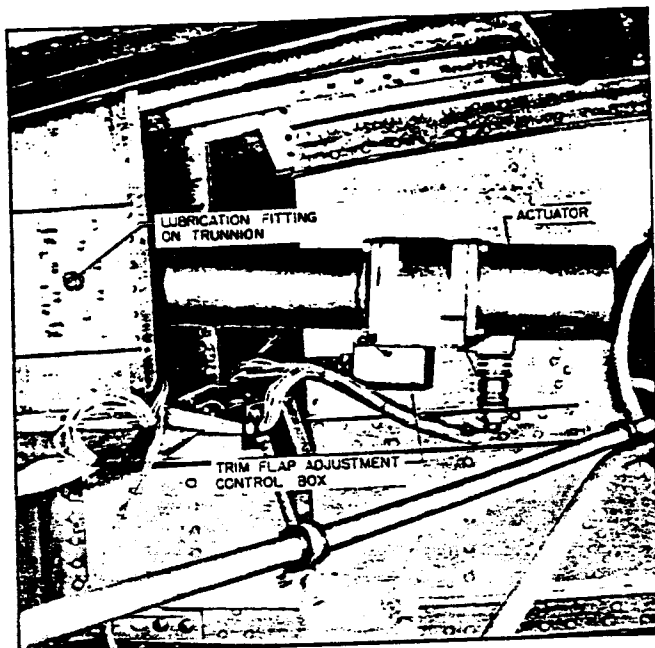

Figure 21. Trim Flap Actuator Installed
(1) DESCRIPTION.- Each trim flap is actuated by a screw-jack and a reversible electric motor assembly which incorporates an automatic brake, electric limit switches, and mechanical stops. The actuator is trunnion-mounted on the rear wing spar and the screw-jack is bolted to the flap. The flaps are controlled by an eight position switch located on the pilot's control pedestal. The switch is of the momentary type, spring loaded to the OFF position. Fore-and-aft positions of the switch operate the flaps together for elevator trim and the left and right positions of the switch moves the flaps in opposite directions for aileron trim. The other four intermediate positions of the switch are used for a combination of elevator and aileron trim. A position transmitter for each trim flap is bolted to the rear spar and connected mechanically to the flap. Two indicators, one for aileron trim and one for elevator trim are mounted on the pedestal forward of the control switch. Fittings are provided on the actuator trunnions for lubrication.
(2) REMOVAL OF TRIM FLAP ACTUATORS. (See figure 21.)